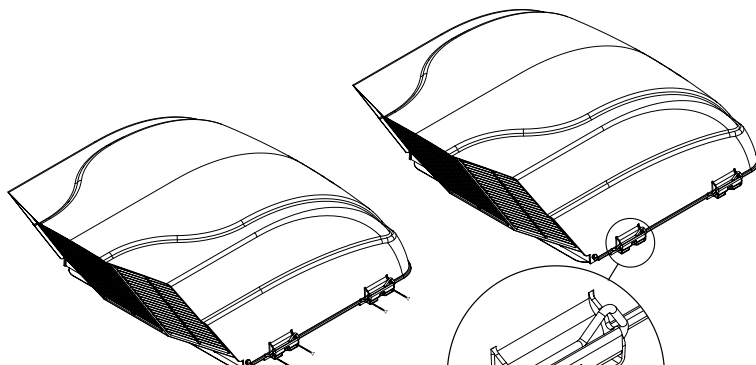

Figure 9
3. Close the FANMATE® and mark the location of the feet onto the roof on the opposite side. See Figure 9.
4. Line up the remaining two (2) brackets with the marks just made in step 3 on the roof as shown in Figure 9.